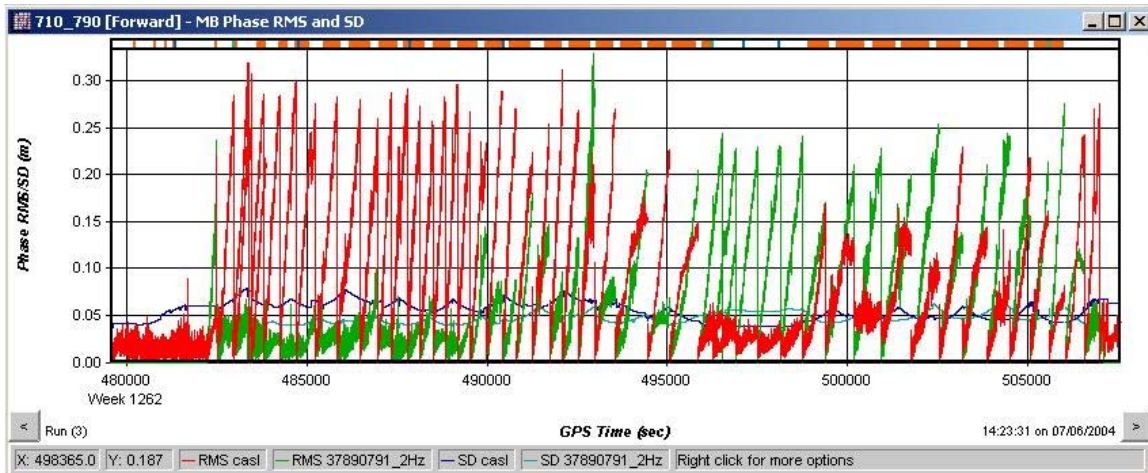

Figure 10.1 MB Carrier Phase RMS using bad base station coordinates
- b) For the MB-KF, the effect is much more obscure, and it is most apparent in the MB carrier phase RMS plot. A very obvious ramping or “saw-tooth” effect is visible. See Figure 10.1 for an example. For this reason, it is very important to always view this plot in addition to the separation.